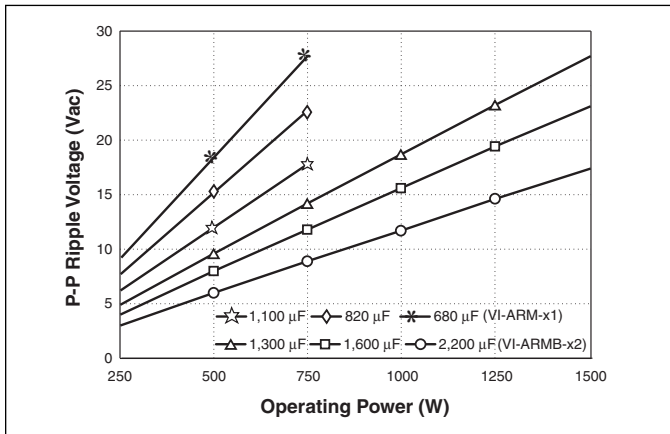

Figure 7-10 — Ripple voltage vs. operating power and bus capacitance, series combination of C1, C2 (Figure 7-3)
**Determining Ripple Voltage on the Hold-up Capacitors.** Figure 7-10 is used to determine ripple voltage as a function of operating power and bus capacitance, and shows that the ripple voltage across the hold-up capacitors will be 12 Vac.